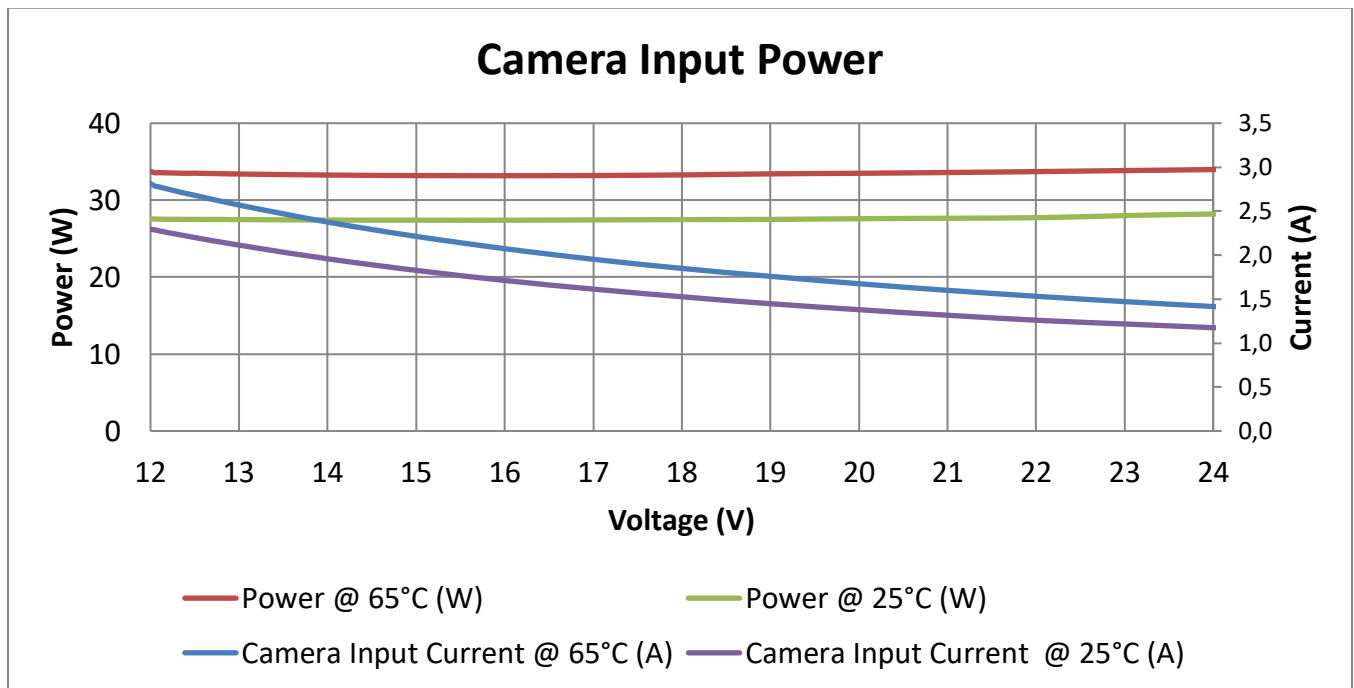

Figure 1: Power and Temperature*
1. Power dissipation increases with temperature. See *Figure 1: Power and Temperature*